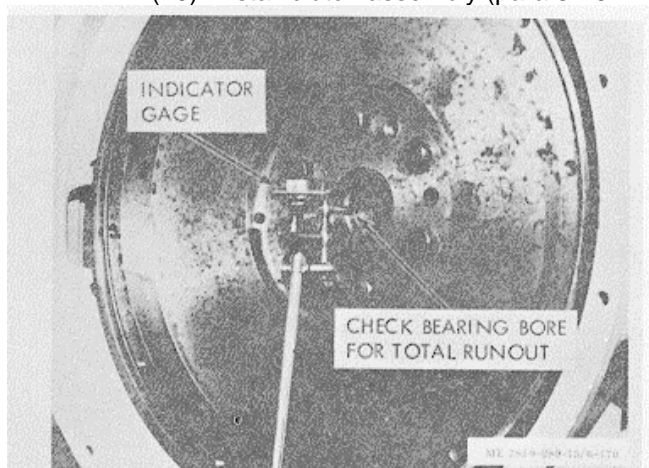
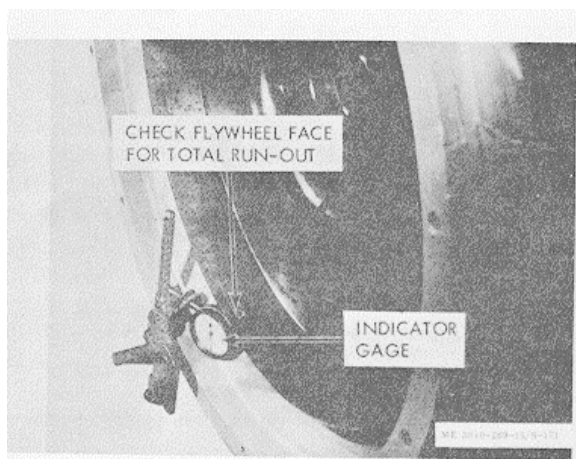

Figure 3-164. Flywheel indicator gage installation.
Figure 3-165. Flywheel indicator gage.
(3) Attach indicator gage to flywheel housing as shown in figure 3-164.
(4) Check clutch pilot bearing bore. Total run out must not exceed 0.005 in.
(5) Shift gage to indicate flywheel face (fig 3-165).
(6) Draw four equidistant chalk marks on flywheel circumference.
(7) Turn crankshaft, taking up crankshaft end clearance as chalk marks align with indicator. Run out must not exceed 0.0005 inch per inch of diameter. If runout exceeds 0.0005 inch per inch of diameter, remove flywheel and clean flywheel and crankshaft flange mating surfaces.
(8) Reinstall flywheel; check bore at face.